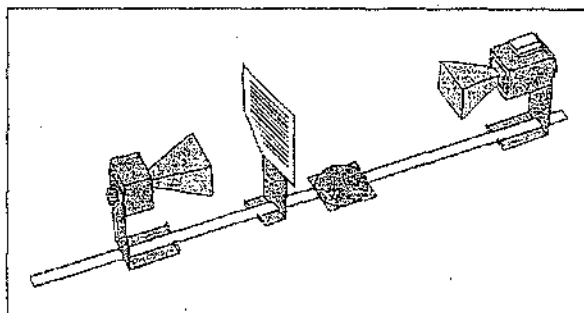

Figure 5.4 Equipment Setup
- ④ Set up the equipment as shown in Figure 5.4. Reset the Receiver's angle to 0-degrees (the horns should be oriented as shown with the longer side horizontal).
- ⑤ Record the meter reading when the Polarizer is aligned at 0, 22.5, 45, 67.5 and 90-degrees with respect to the horizontal.
- ⑥ Remove the Polarizer slits. Rotate the Receiver so the axis of its horn is at right angles to that of the Transmitter. Record the meter reading. Then replace the Polarizer slits and record the meter readings with the Polarizer slits horizontal, vertical, and at 45-